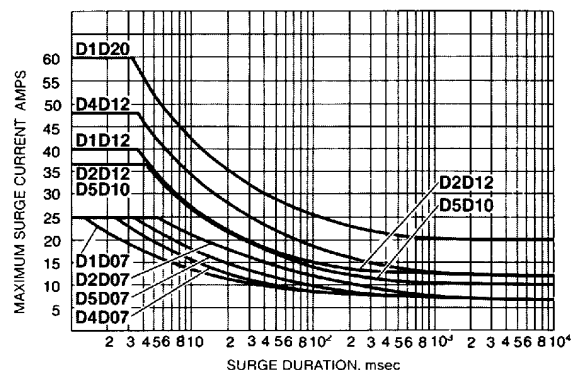

Figure 2. Maximum Surge Current vs. Duration
② See figures 2 and 3.
③ Case temperature Tc=80°C.
④ Junction temperature TJ (max.)=125°C, (D1D40=150°C)
⑤ Over temperature range -30 °C ≤ TA ≤ 80 °C
⑥ Dielectric and insulation resistance measured between input and output, and both to baseplate.
The curves in figures 2 and 3 apply to a nonrepetitive uniform amplitude surge of a given time and peak current, preceded by an off-state and followed by any rated load condition. The junction temperature must be allowed to fall below 80°C before reapplication of surge.